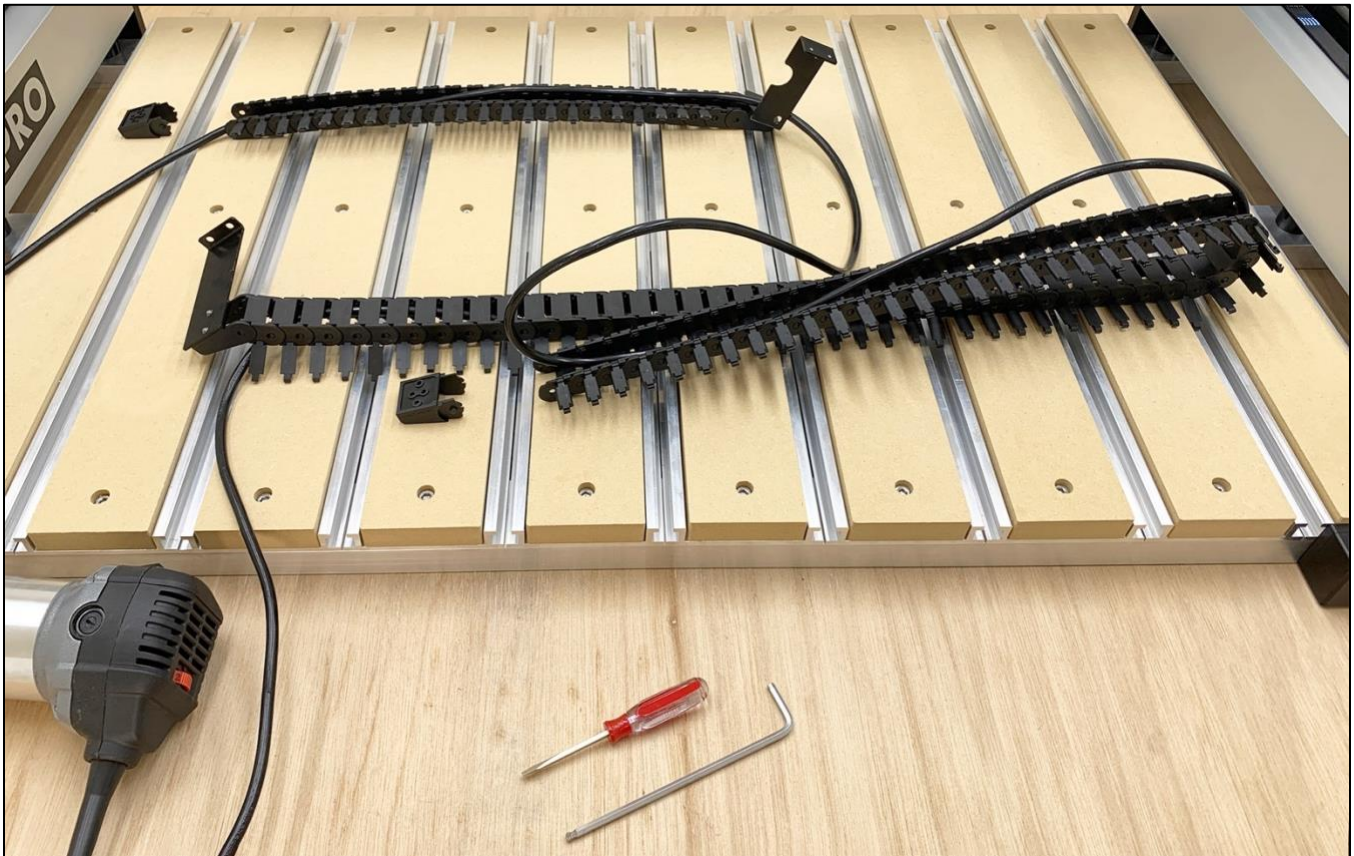

Figure 5
8. Open the both drag chains, remove the router power cable, and set the router aside. See **Fig. 5**.
- c. You may need to remove the tail links from both axes to be able to remove the power cord. See **Fig. 5**. Make sure to note their orientation so you can re-install them correctly. Use a small screwdriver to pry off the tail links.